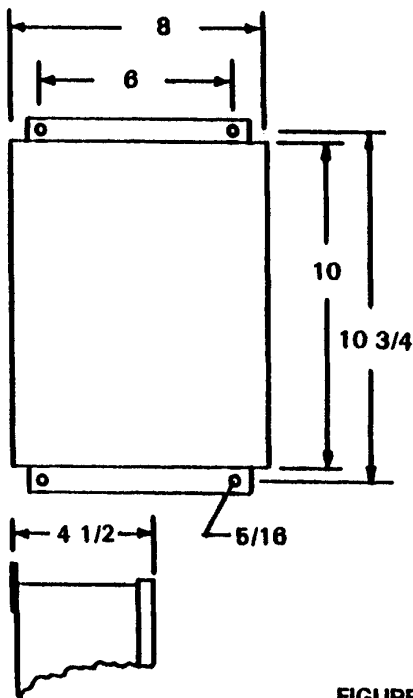

FIGURE 2
4.1 A1100 and A1200 enclosures are rated NEMA 4, dust tight, oil tight and water tight steel construction suitable for indoor and outdoor use. (see figure 2, page 3)